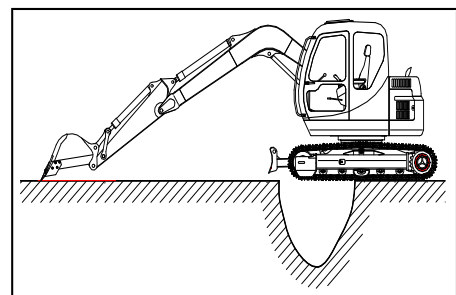

Figure 3.4.8
(7) When the machine gets into wallow or passing raceway, you can use arm and boom to help the machine passing (As figure 3.4.8)